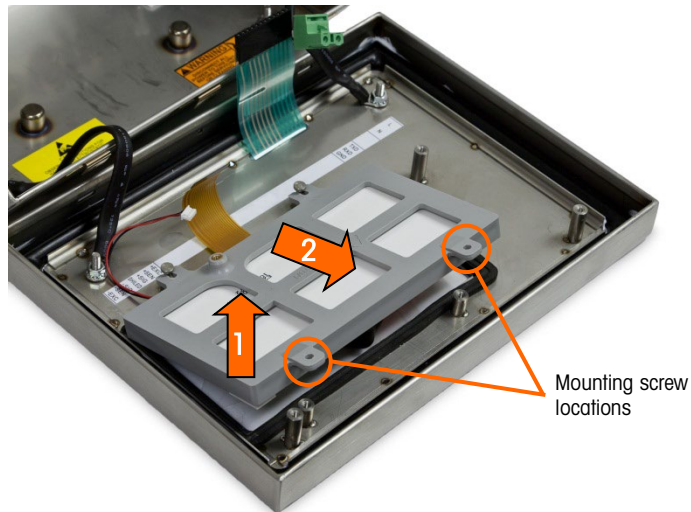

Figure 5-21: Display Module Mounting Screws
1. Unscrew and remove the two screws holding the display module to the enclosure. The screw positions are identified in Figure 5-21.
3. Place the LCD display module into the display bracket with the display and backlight harnesses oriented as shown in Figure 5-21.
6. Install the two screws holding the display module to the enclosure. The screws are identified in Figure 5-21.